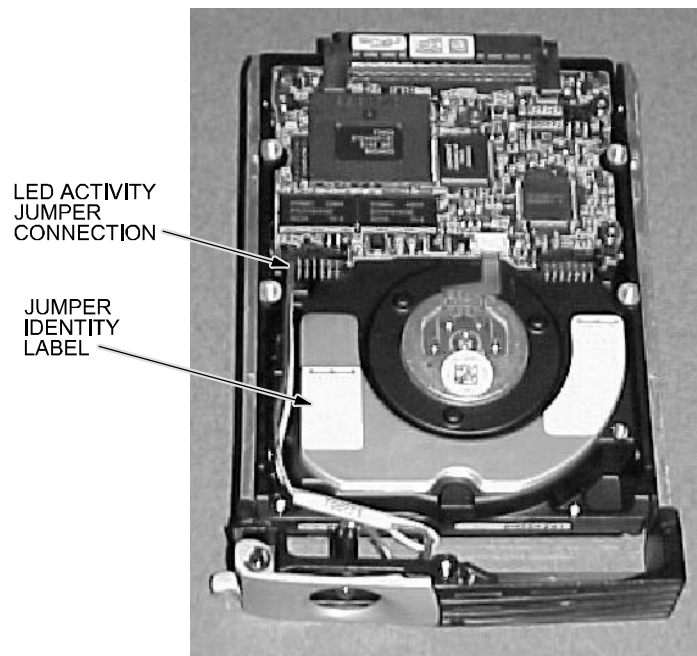

Figure 5-3: Hard Drive Mounted in Shuttle
- 10 Turn the shuttle over and connect the leads for the drive activity LED to the correct jumper position on the drive (see Figure 5-3). The correct jumper for LED Out should be identified by a marking or label on the drive (as shown in Figure 5-3). Note that the connection is polarity sensitive.